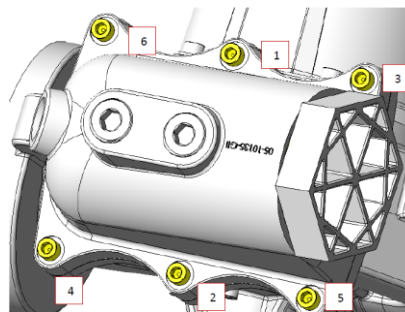

Figure 23
3. Install bypass screws in the order shown in Figure 23. Torque to 90 lbs/in.